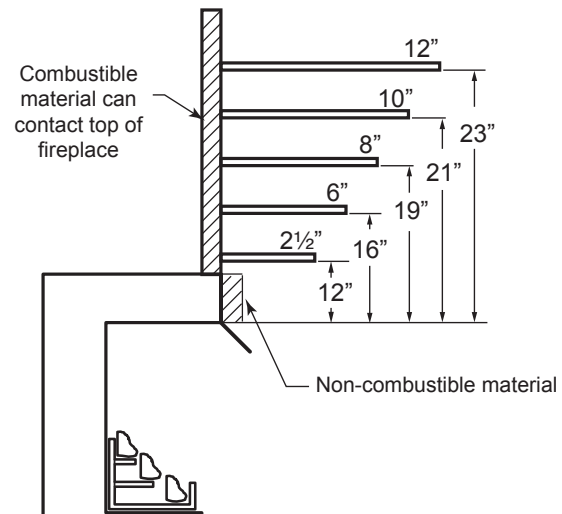

Figure 7. Mantel Clearances
**Mantel clearances** — The canopy supplied with the unit must be installed. If a combustible mantel is installed. It must meet the clearance requirements detailed in Figure 7